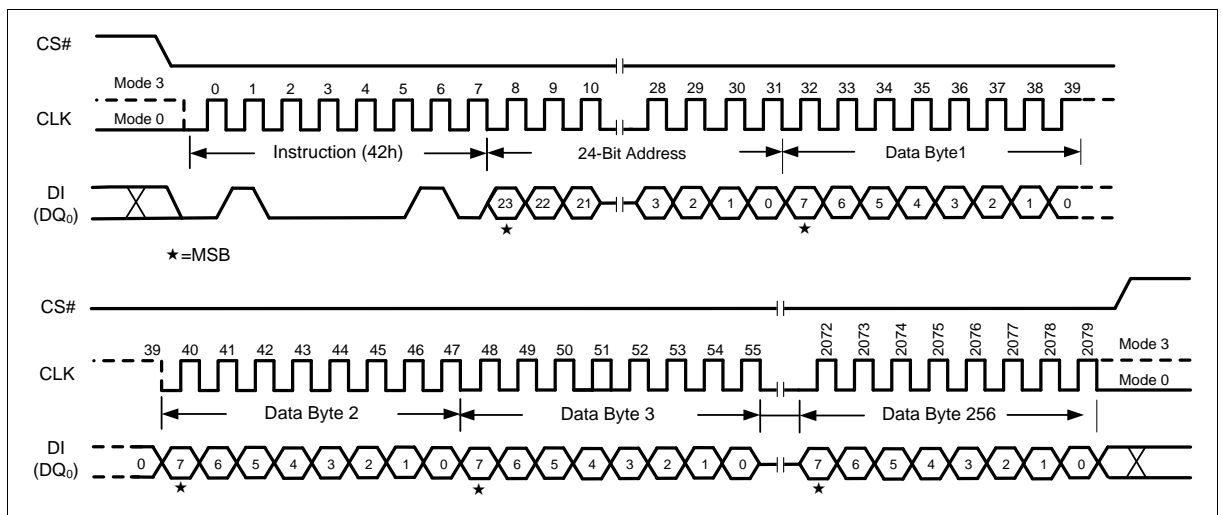

Figure 65 Program Security Sector Instruction (SPI Mode only)
The Program Security Sector instruction sequence is shown in Figure 65. The Security Sector Lock Bit (LB) in the Status Register-2 can be used to OTP protect the Security Sector. Once a lock bit is set to 1, the Security Sector will be permanently locked and Program Security Sector instruction will be ignored.